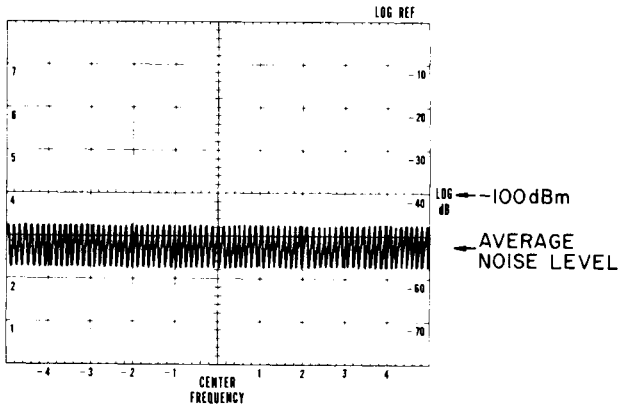

Figure 4-7. Residual Response Test
- 3. Observe the display as the analyzer scans from 0 to 500 MHz. The average noise level should be less than -100 dBm, and no residual responses should occur. Figure 4-7 represents a scan with no residual responses and with the average noise level indicated.